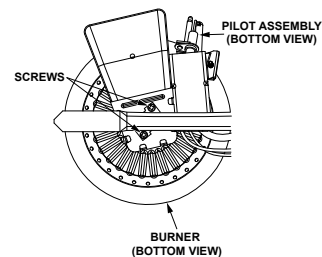

FIGURE 33.
1. Take off the burner by removing the two (2) screws located underneath the burner.
2. Check the burner to see if it is dirty or clogged. The burner may be cleaned with soap and hot water (Figure 33).
- Re-attach the burner. Note the orientation of the burner (Figure 33.)
- Take off the burner by removing the two (2) screws located underneath the burner. See Figure 33.
- Re-attach the burner. Note the orientation of the burner (Figure 33).